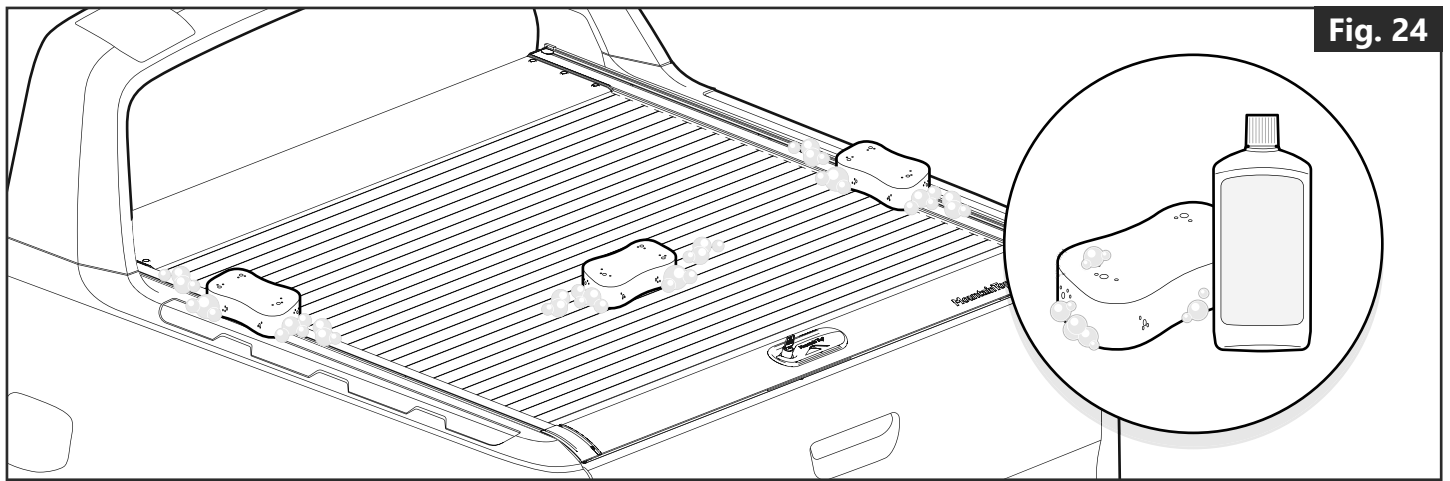

Fig. 24
- The Roll cover should be cleaned on a regular basis using water with normal car shampoo (PH < 8). (**Fig. 24**)